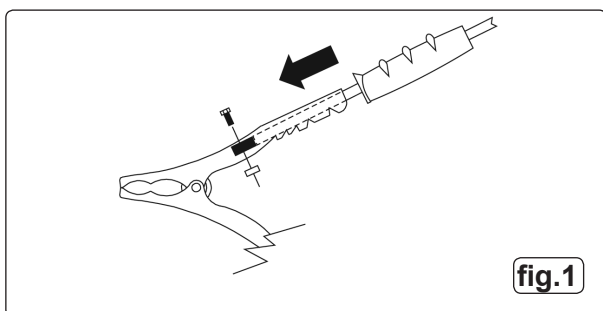

fig.1
3.2 BATTERY CLAMPS. (See fig.1)